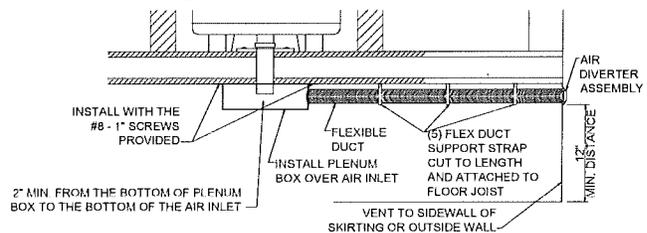

FIGURE 3
**CAUTION:** Location of the Air Diverter Base must take into consideration the (16) foot maximum length of Flexible Duct allowed between the Air Diverter Base and Air Inlet Plenum. The Air Diverter Assembly must be located a minimum of (12) inch from ground level. Refer to Figure 3. The Flexible Duct must be run
3. **CHECK LENGTH OF AIR INLET PIPE:** It may be necessary to trim the length of the three (3) inch air inlet pipe so that the pipe fits into the plenum box without touching the bottom of the box. The three (3) inch air inlet pipe should fit into the plenum box about two (2) inch from the bottom of the box. Refer to Figure 3 below.